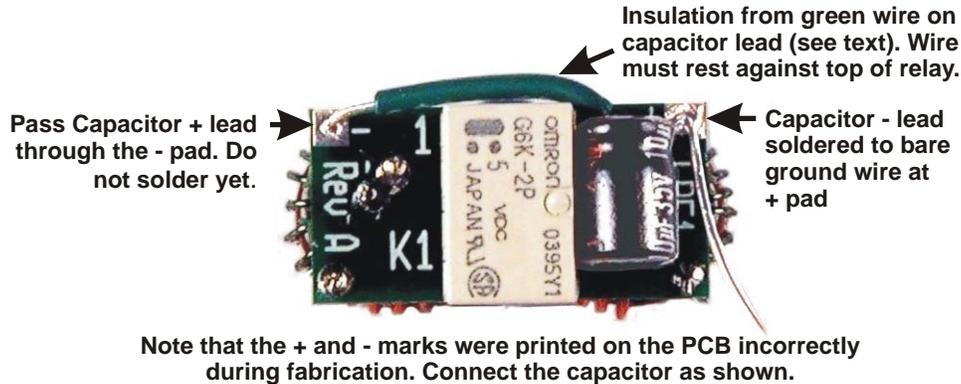

Figure 12. Installing C9 on LPF1.
Identify the negative lead of electrolytic capacitor C9, 10 μ F, 35V (10). The negative lead is the shorter lead and there will be a stripe with a minus (-) sign on the capacitor next to that lead. Position the capacitor against the LPF1 PCB alongside the relay next to the ground wire exactly as shown in Figure 12. Solder the negative lead to the ground wire on the LPF1 PCB as shown.
Cut to length the green hook up wire insulation you saved and slip it over the positive lead from C9 as shown in Figure 12. Route the positive lead of C9 over the top of K2 to the pad shown in Figure 12, so it rests against the relay. Do not solder yet.